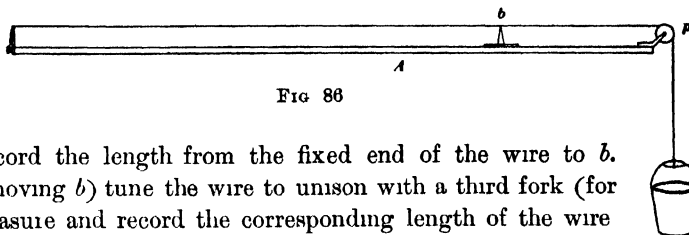

FIG 86
**I. Effect of length on the vibration rate of a stretched wire.** (a) Stretch a fine steel piano wire (No. 00) along the board *A* (Fig 86), insert a bridge at *b*, and hang a pail having a capacity of at least six quarts over the pulley *p*. Pour water into the pail until the note given by the wire (best picked near the middle) is in unison with the note of the lowest fork provided; namely, C. Measure carefully the length of the wire between the fixed end and *b*.
**II. Effect of tension on the vibration rate of a stretched wire.** (a) Set up side by side two boards like *A* (Fig 86), both of which are provided with No. 00 piano wire. Place the bridges *b* at the same distance, say 60 cm, from the left end of each. Produce the same tension in the two wires by hanging from each a like weight (for example, a pail containing a small amount of water). The weights should be of such size as to produce in the plucked wires a low but perfectly distinct musical note. Bring the two wires into exact unison by adjusting the water in one of the pails until no beats are heard when the strings are sounded together. Find the exact tension on one of the wires by weighing the pail and water carefully with a spring balance. Produce the exact octave on the other wire by moving the bridge until the wire is only one half as long as at first. Bring the first wire into unison with it by adding water to the pail, leaving the length exactly as at first. Weigh the pail and water again, and find the ratio of the weights in the two cases. In order to double the rate, how many times has it been necessary to multiply the stretching force?